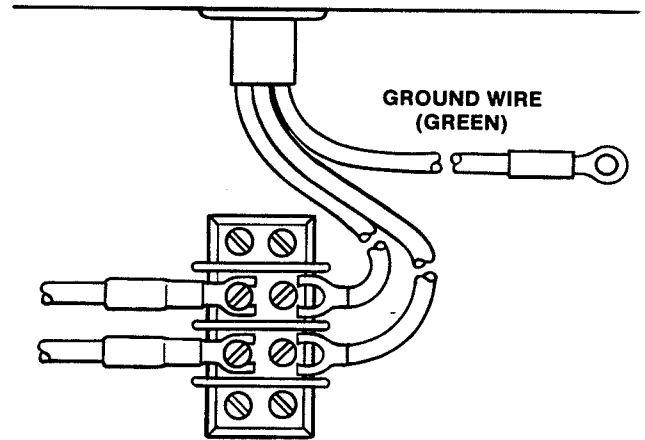

Figure 7. Power Cord Connection
- B. Remove the lower front control box cover to gain access to the power cord connection. Disconnect the black and white wires from the terminal block (L1 and common). Disconnect the green ground wire from the grounding stud (Fig. 7).